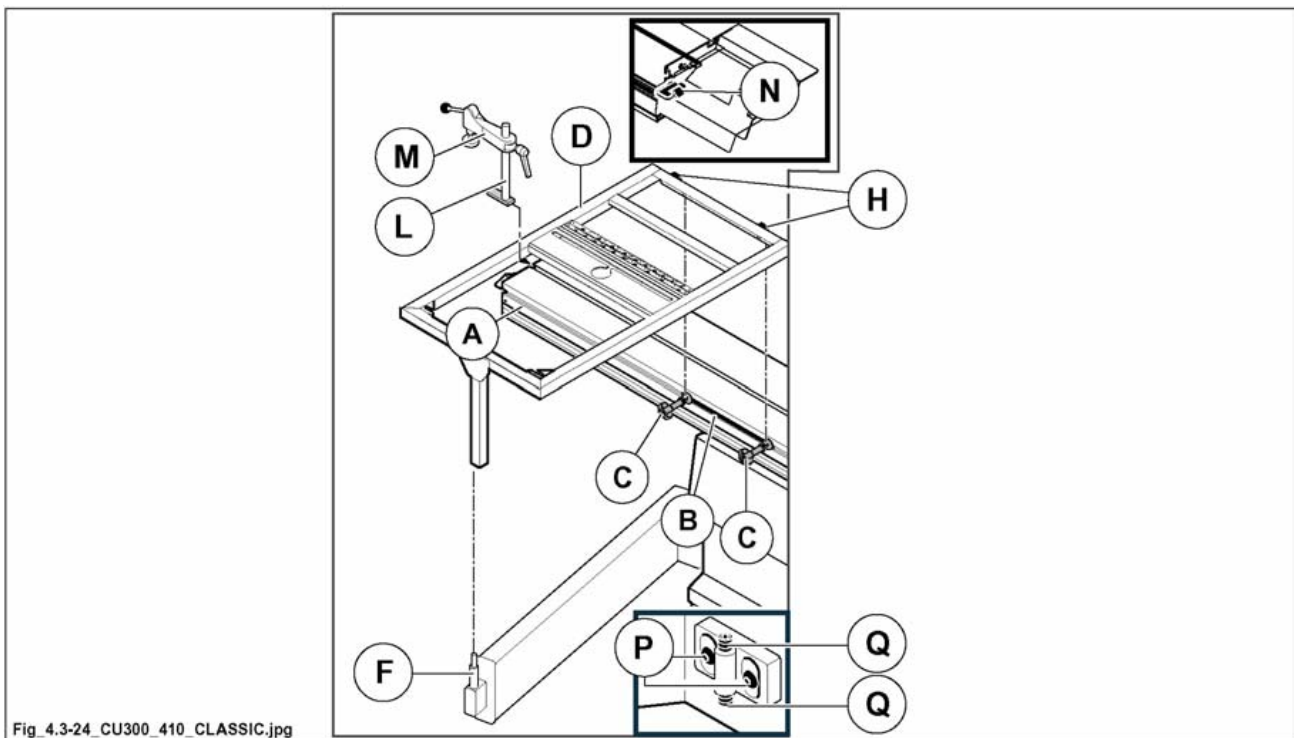

Fig. 4.3-24
the screw (F fig. 4.3-24) must sit perfectly in the special hole underneath the frame (D fig. 4.3-24).
- 3) Level the table (D fig. 4.3-24), if necessary, acting on the pin (F fig. 4.3-24).
- 4) Tighten the knobs (C fig. 4.3-24).
- 5) Insert the stud bolt (L fig. 4.3-24) with the presser (M fig. 4.3-24) in the groove of the wagon (A fig. 4.3-24) and turn it clockwise to lock it.
- 6) When the wagon (A fig. 4.3-24) is not used, lock it with the lever (N fig. 4.3-24).
- loosen knobs (C fig. 4.3.24);
- loosen screws (P fig. 4.3.24) and move the dowels (Q fig. 4.3.24) to adjust the height position.
- 1) Place the telescopic ruler on the table (A fig. 4.3-24-2), inserting the fulcrum (C fig. 4.3-24-2) in the hole (R fig. 4.3-24-2).